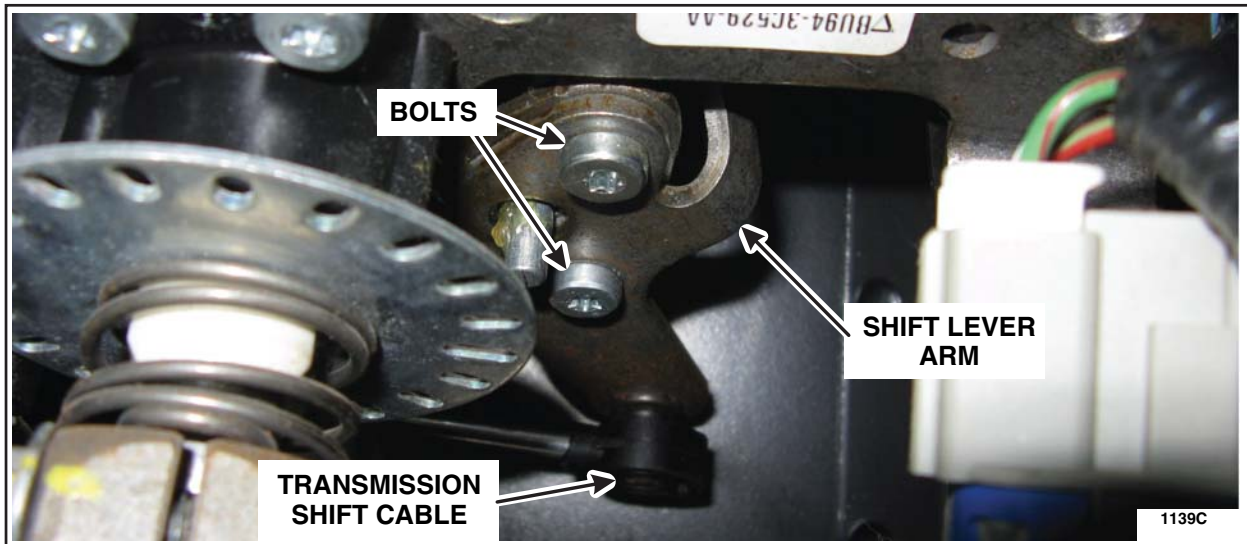

FIGURE 3
4. Detach the transmission shift cable from the shift lever arm. Remove the 2 bolts and the shift lever arm. See Figure 3.
3. Install the *new* shift lever arm and 2 bolts. Attach the transmission shift cable to the *new* shift lever arm. See Figure 3.